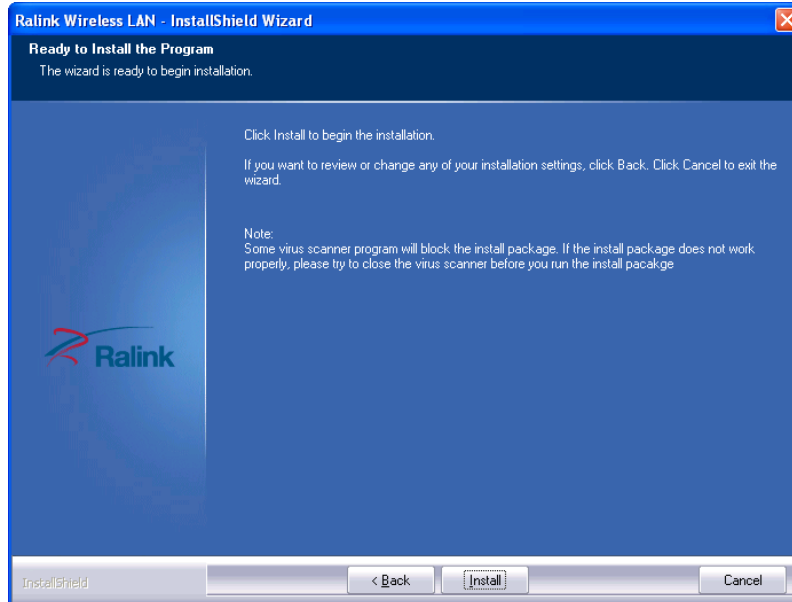

Figure 8-37: Ready to Install the Program
Step 10: The **Ready to Install the Program** screen in **Figure 8-37** appears.